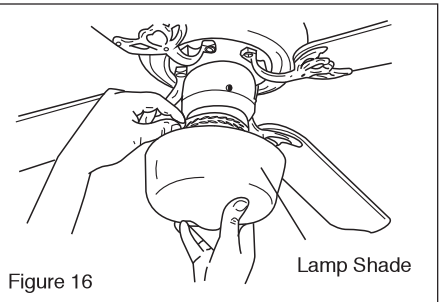

Figure 16
- Install the lamp shade into the lamp-fitter by tightening the thumb screws (Figure 16).